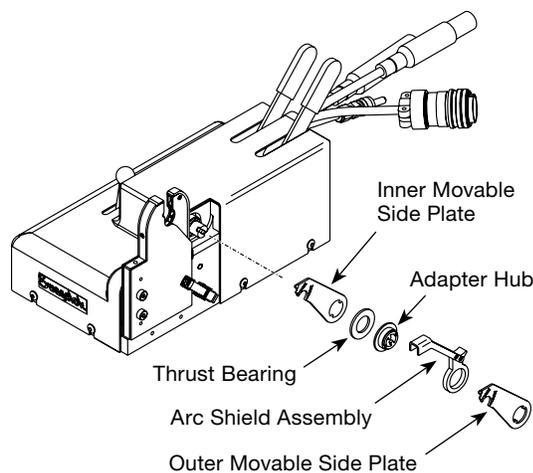

Figure 33 Removing the Movable Side Plate Assembly
4. Remove outer movable side plate, arc shield assembly, adapter hub, thrust bearing, and inner movable side plate. See Figure 33.